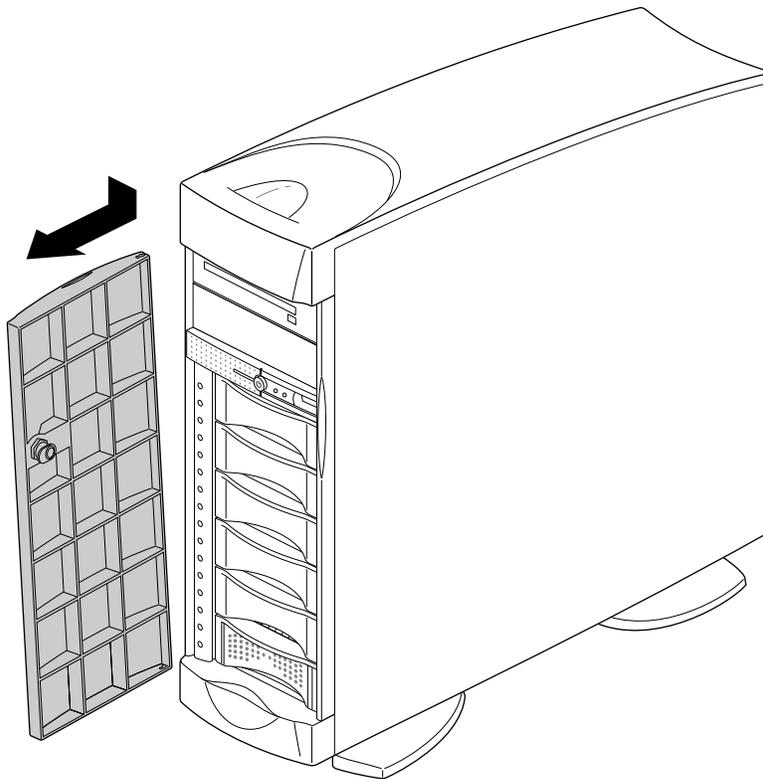

Figure 2-15 Removing the Front Door of a CPU Module, Tower Configuration
- If your system is in a tower configuration, push down on the top, outer edge of the door, as shown in Figure 2-15. The door pops off its hinges.